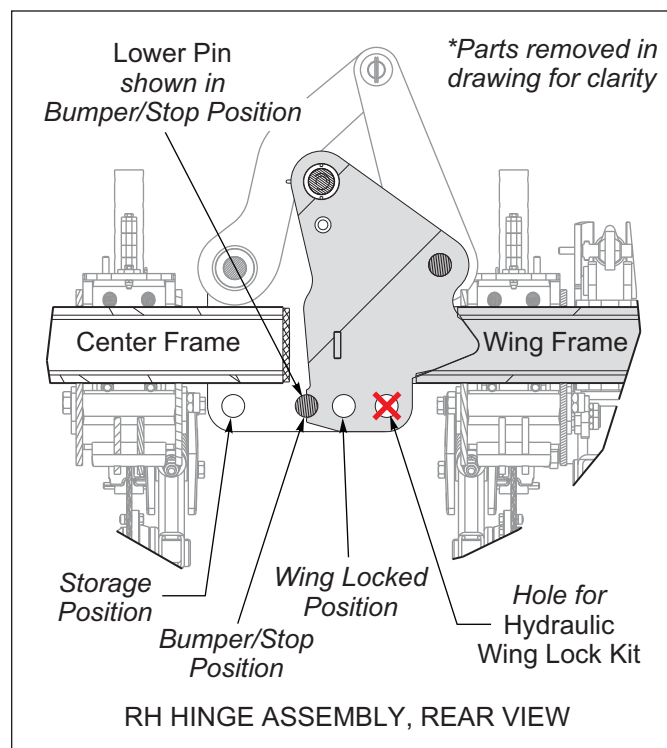

Figure 4-6: Folding Frame Wing Lock
6. The removable, Lower Pin (P/N 179470) in the rear hinge assembly can be located in 3 different positions in the lower rear hinge assembly. Each position has a different function. *See Figure 4-6.*
During field operation, the wing fold hydraulic system **MUST** be operated in Float Position (tractor setting) once the wings are unfolded **OR** the wings **MUST** be locked down (Wing Locked Position). Failure to do so may result in wing fold cylinder damage. *See Figure 4-6.*